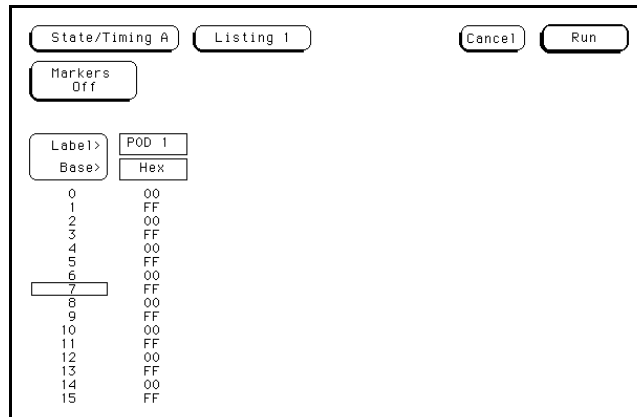

Figure 3-24. Listing Screen
6. Touch **Run**. The State Listing screen will be displayed and should list alternating F's and 0's as shown in figure 3-24.